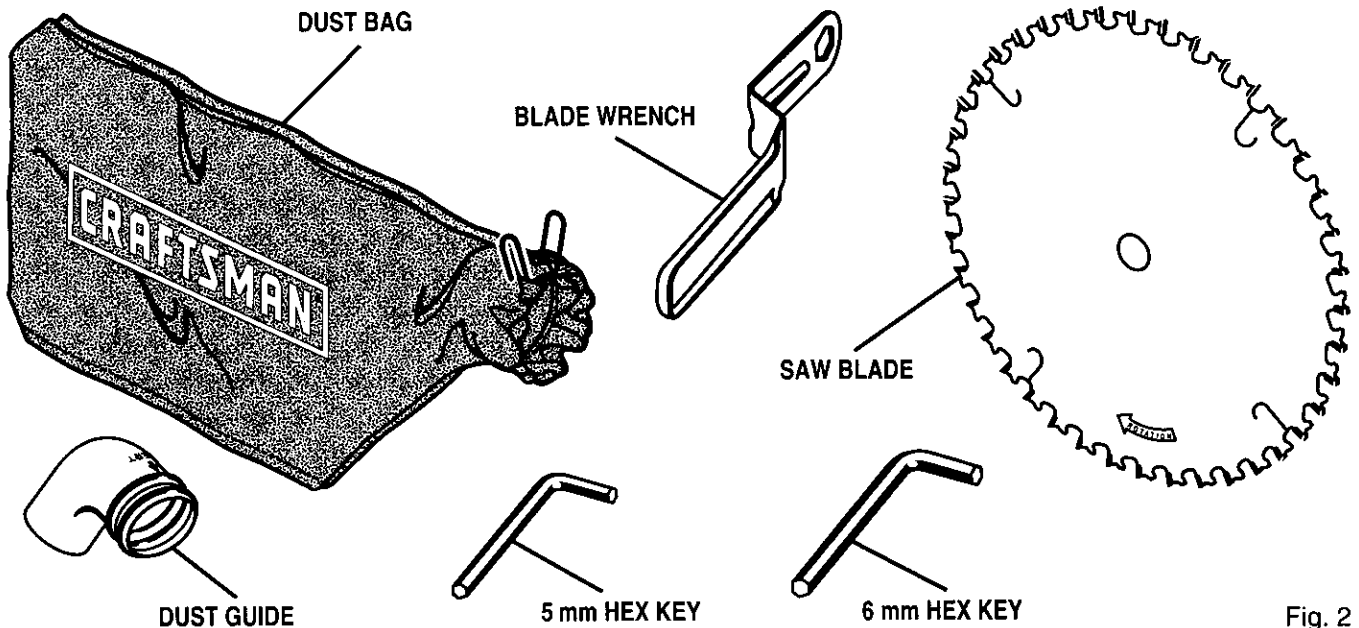

Fig. 2
- Remove all loose parts from the carton. Separate and check with the list of loose parts. *See Figure 2.*